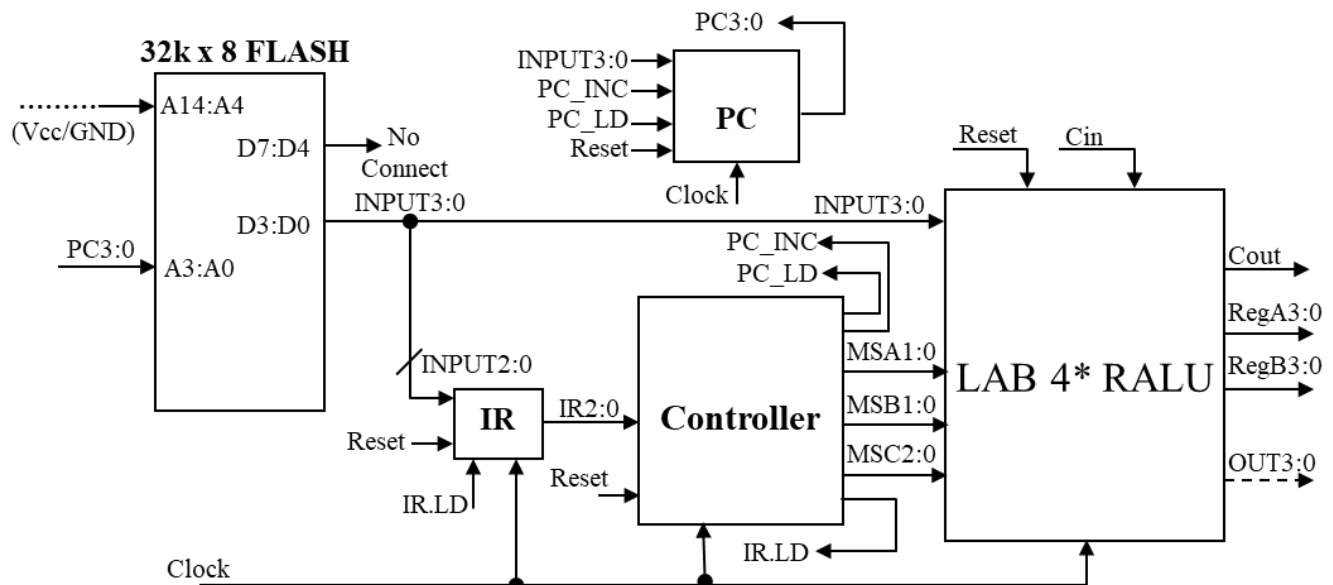

Figure 3. Block diagram of system hardware.
1. As shown in Figure 3, a $32k \times 8$ EEPROM (or Flash) is added. The instructions and data will be stored in this EEPROM **starting in location \$2B70**.
2. A program counter (PC) is added. PC is a 4-bit up-counter with a synchronous count enable signal (PC_INC). If PC_INC is TRUE, the counter will increment by 1 at the next active clock transition. If PC_INC is FALSE, the counter holds its current value. The count after 1111_2 is 0000_2 . Another synchronous signal, PC_LD, is used to load the counter from the INPUT bus. The 74'161 (with **asynchronous** clear) is ideally suited to function as a 4-bit PC. (The 74'163 is identical except that it has a **synchronous** clear.)